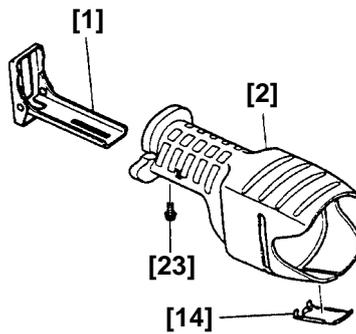

Fig. 1
##### (1) Removal of Front Cover (C) **[2]** (Fig. 1)